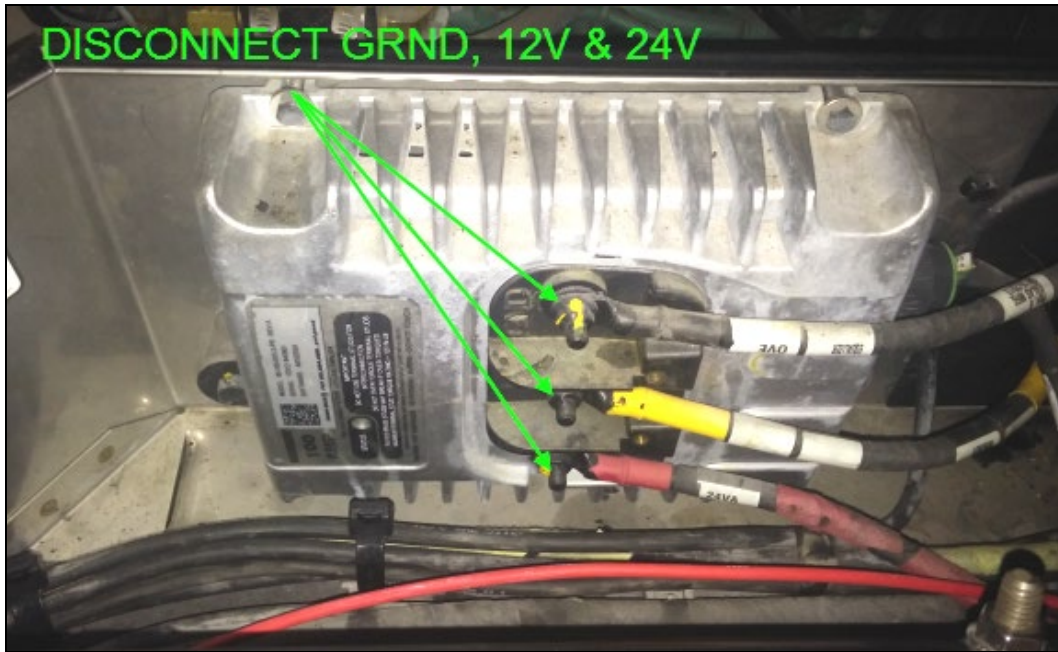

Fig.7 Equalizer power wires and terminal posts.
5. Disconnect the equalizer ground, 12 volt & 24 volt power wires (Fig.7).